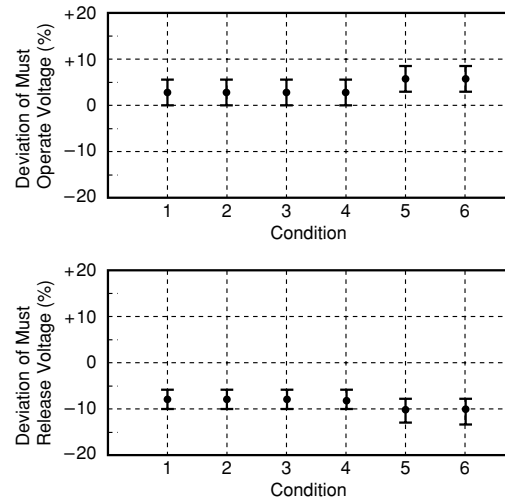

Figure 3.6 Magnetic Interference
This section describes changes in the operate voltage caused by mutual magnetic interference when several relays are closely mounted on a printed circuit board (PCB). Figure 3.6 (1) shows the distance among the relays mounted on the PCB. As shown, the pin pitch of each relay is 2.54 mm. Figure 3.6 (2) shows the relay that is subject to interference. In this figure, the hatched relay shown in the center of each relay arrangement is subject to interference, and the surrounding relays influence the center relay. The condition under which the center relay suffers interference and the surrounding relays affect the center relay differs depending on whether power is supplied to each relay. Figure 3.6 (3) shows the deviation in percent of the operate and release voltages of the center relays in Figure 3.6 (2).